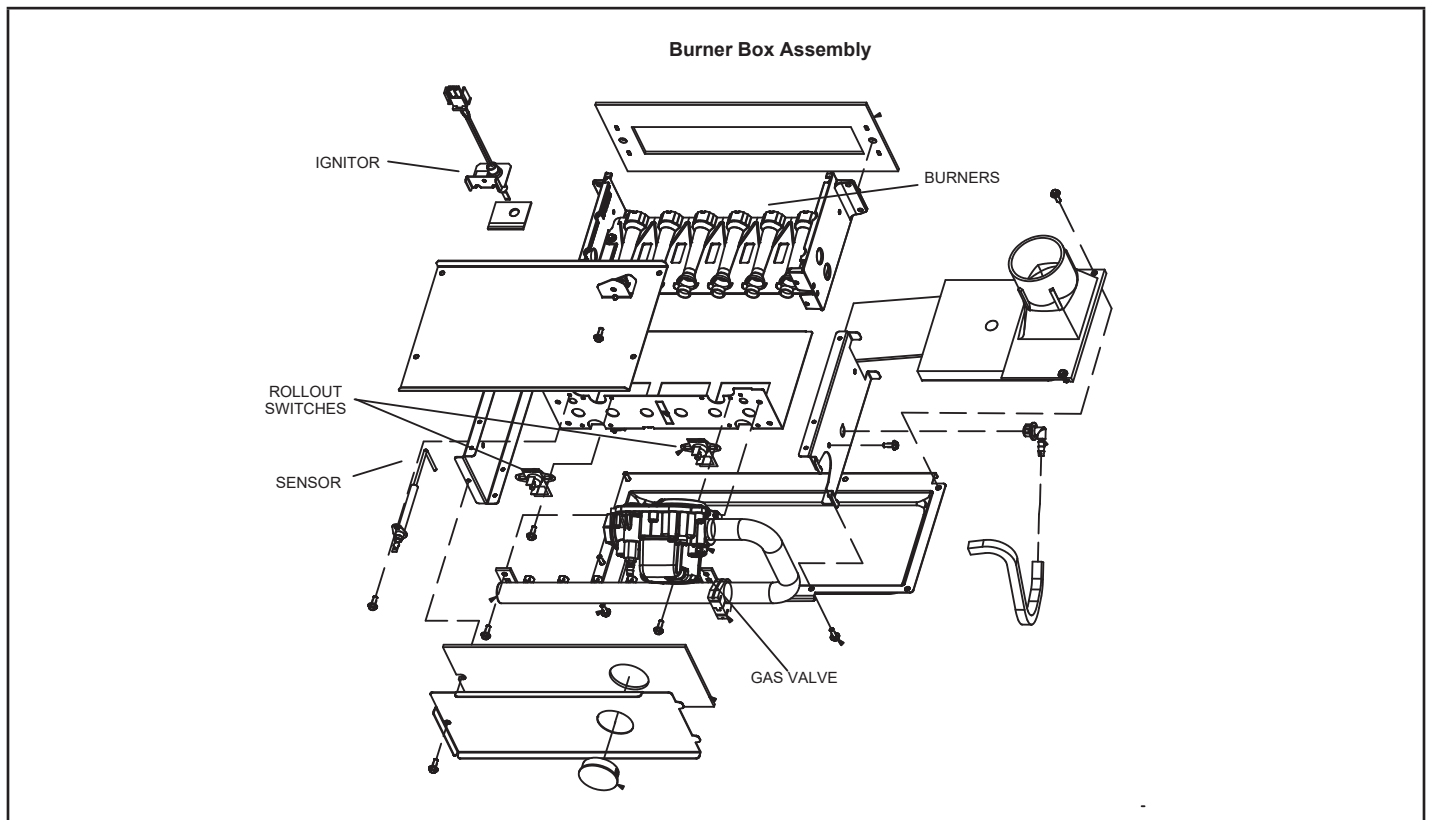

FIGURE 6
1. Flame Rollout Switches (FIGURE 6)
5. Flame Sensor (FIGURE 6)
6. Ignitor (FIGURE 6)